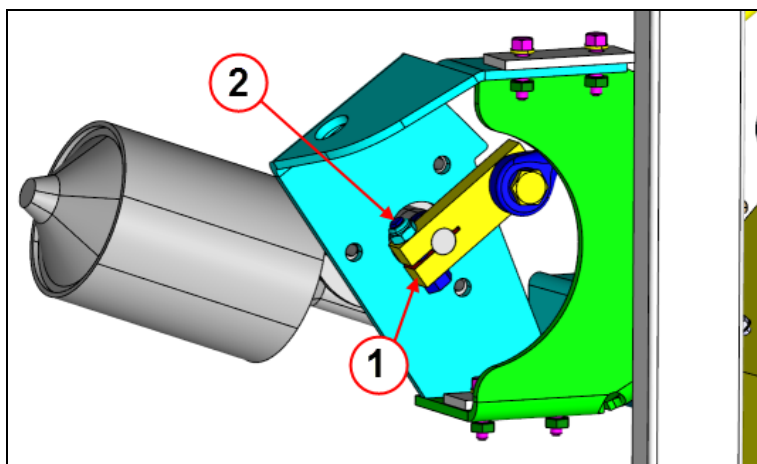

FIGURE 9 (X3 & XLII SERIES ARRANGEMENT SHOWN)
7. Loosen the pinch bolt (item 2, figure 9) holding the crank arm (item 1, figure 9) to the wiper motor shaft and remove the motor.
15. Tighten the screw (item 2, figure 9) holding the crank arm to the motor shaft. Torque to **22 lbf-ft**.